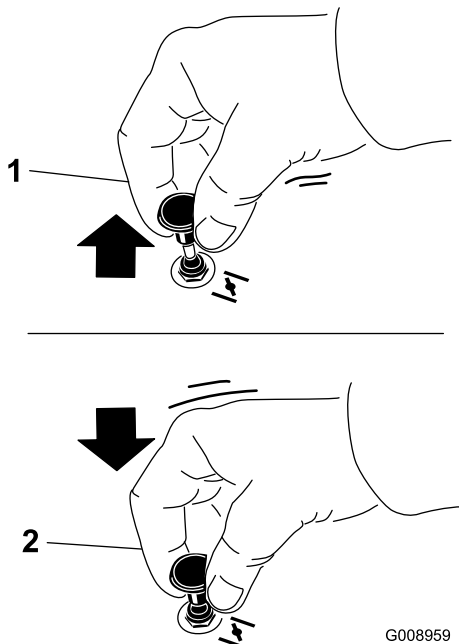

Figure 13
- Pull up on the choke knob to engage the choke before using the ignition switch (Figure 13).
- Push down on the choke knob to disengage the choke after the engine has started (Figure 13).